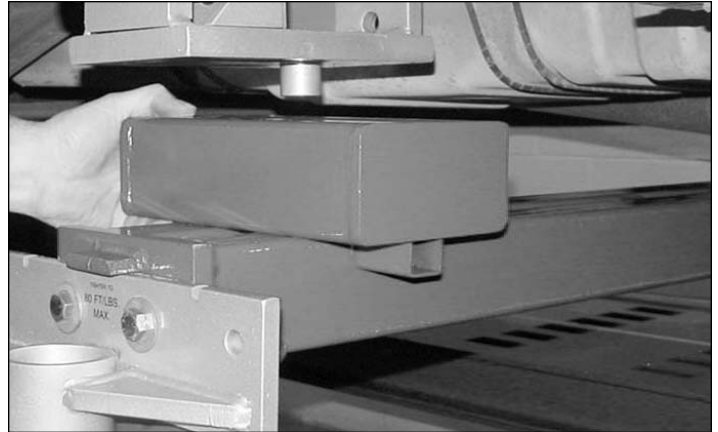

Figure 44
1. Lift end of vehicle and on side of vehicle that must move, rotate riser bar (top riser bar if two are used) so that it straddles the crossbar. (See Figure 44.)